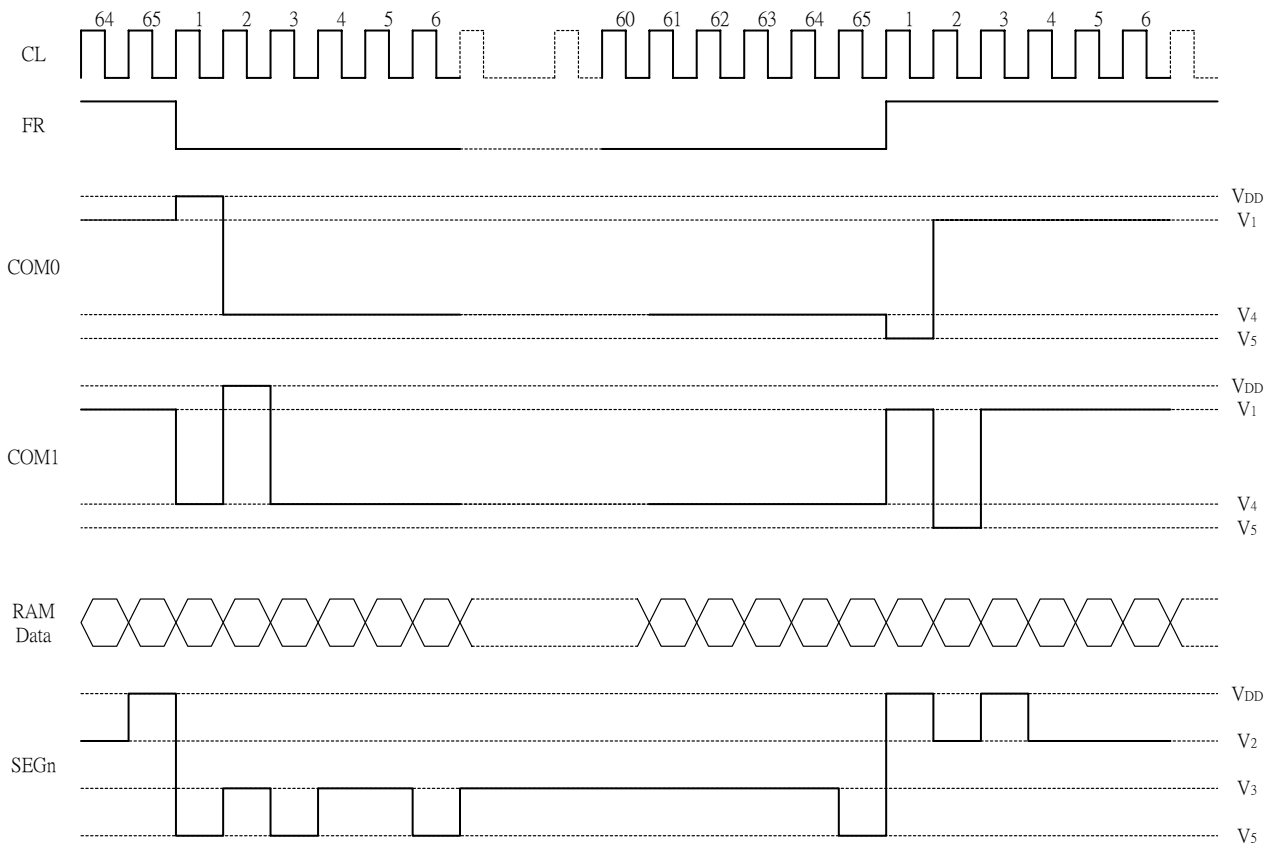

Figure 5
accessed asynchronously during liquid crystal display, there is absolutely no adverse effect (such as flickering) on the display. Moreover, the display timing generator circuit generates the common timing and the liquid crystal alternating current signal (FR) from the display clock. It generates a drive waveform using a 2 frame alternating current drive method, as is shown in Figure 5, for the liquid crystal drive circuit.